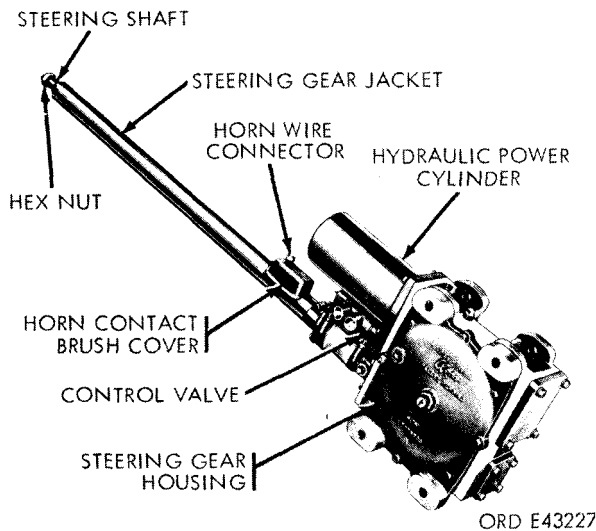

Figure 2-205. Steering gear unit.
(1) Remove the horn button assembly (para 2-156).
(2) Remove the hexagon nut (fig. 2-205) securing the steering wheel to the upper end of the steering shaft.
(3) Install the horn bottom assembly (para 2-156).